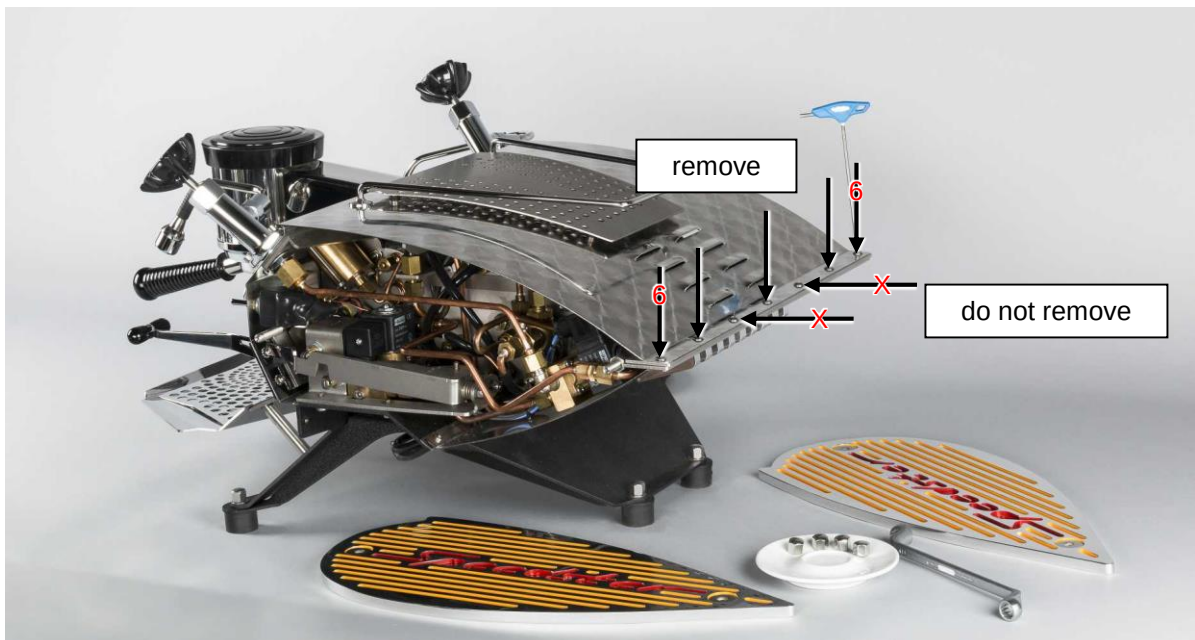

Figure M 2. Showing which bolts should be removed to lift the upper body panel.
2. Use a 3 mm Allen key to remove 5 bolts. The remaining 2 bolts on the body panel should not be loosened (indicated "X" see Figure M 2).